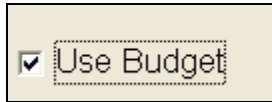

Figure 16.4.27D
- Click on the **Use Budget** box if you want to use a budget (Figure 16.4.27D).